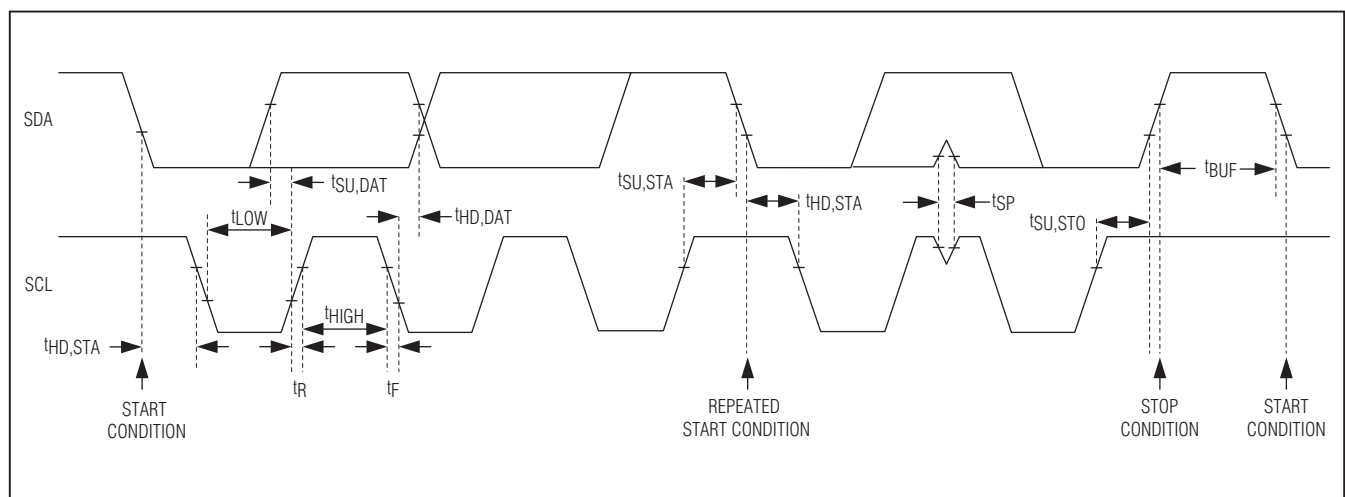

Figure 3. 2-Wire Interface Timing Diagram
The IC features an I2C/SMBus™-compatible, 2-wire serial interface consisting of a serial-data line (SDA) and a serial-clock line (SCL). SDA and SCL facilitate communication between the IC and the master at clock rates up to 400kHz. Figure 3 shows the 2-wire interface timing diagram. The master generates SCL and initiates data transfer on the bus. A master device writes data to the IC by transmitting the proper slave address followed by the register address and then the data word. Each transmit sequence is framed by a START (S) or Repeated START (Sr) condition and a STOP (P) condition. Each word transmitted to the IC is 8 bits long and is followed by an acknowledge clock pulse. A master reading data from the IC transmits the proper slave address followed by a series of nine SCL pulses. The IC transmits data on SDA in sync with the master-generated SCL pulses. The master acknowledges receipt of each byte of data. Each read sequence is framed by a START or Repeated START condition, a not acknowledge, and a STOP condition. SDA operates as both an input and an open-drain output. A pullup resistor, typically greater than 500Ω, is required on the SDA bus. SCL operates as only an input. A pullup resistor, typically greater than 500Ω, is required on SCL if there are multiple masters on the bus, or if the master in a single-master system has an open-drain SCL output. Series resistors in line with SDA and SCL are optional. Series resistors protect the digital inputs of the